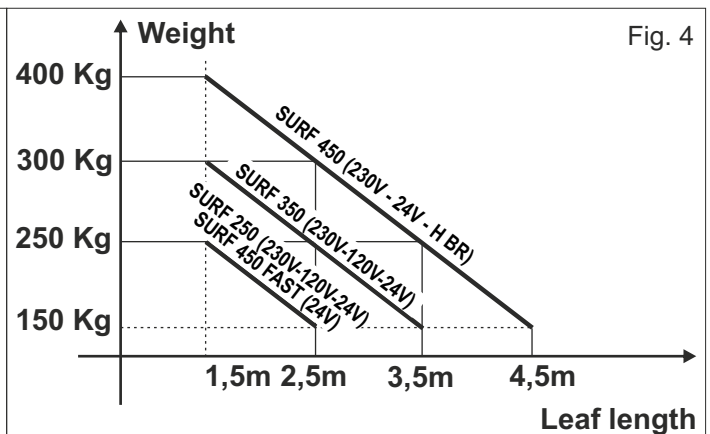

Fig. 4
- B.** the length of each leaf does not exceed the length propped-up by the operator type (see Fig. 4)
- C.** the weight of each leaf does not exceed the weight propped-up by the operator type (see Fig. 4)